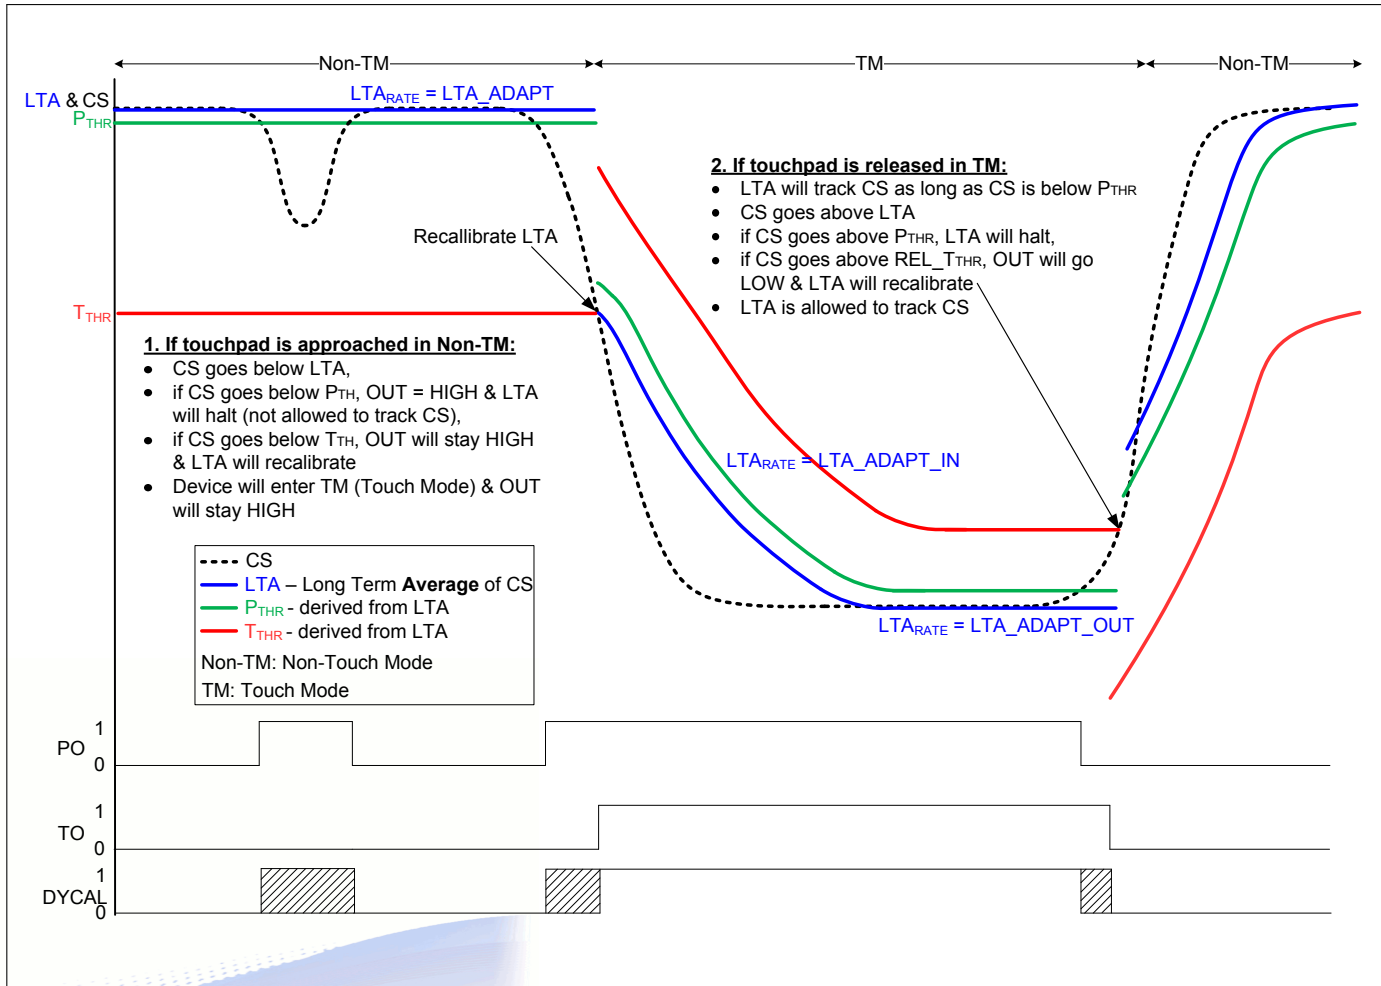

Figure 5.1: DYCAL Overview.
Figure 5.1 is a visual representation of the DYCAL™ functionality. The DYCAL output is used to indicate the status of a DYCAL™ event (both a proximity and a touch event). The DYCAL™ functionality is summarised below.
no proximity event is detected. See Figure 5.1 for a visual representation.
The LTA will adapt according to the LTA_ADAPT_IN rate if IC is IN Touch Mode (TM) and the LTA is adjusting towards CS. This rate will apply until LTA has reached CS. See Figure 5.1 for a visual representation.
This is the rate at which LTA adapts before CS is on its way OUT of TM. See Figure 5.1 for a visual representation.